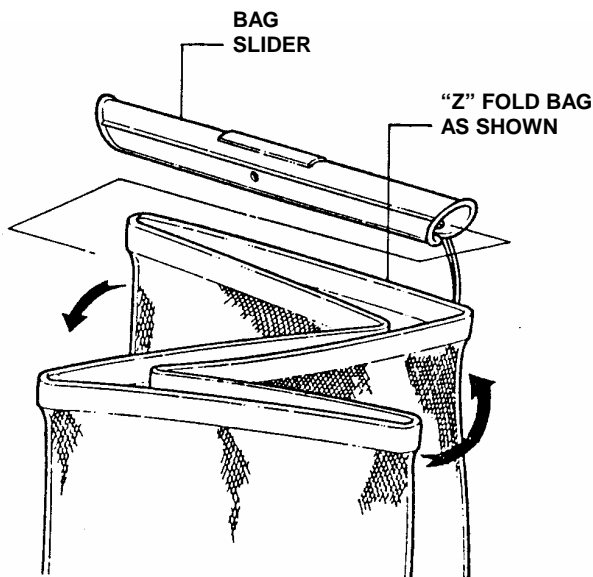

FIGURE 2.11
A. Install the top wire to the grass bag. Tie the bag slider to the top wire. Fold bag opening into a "Z" and pull bag into slider. See Figure 2.11.